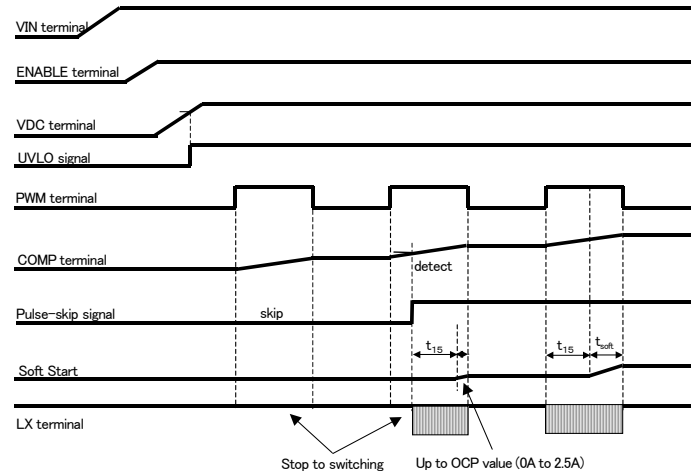

Figure 41. Soft Start
- Regulator (VDC) is operated after ENABLE=H. Inner circuit is operated after releasing UVLO. When boosting after releasing UVLO, soft start function is operated. Soft start circuit needs t_{15} (more than 5 μ s) such as Figure 41. Soft start is operated during Tsoft time. Set PWM width "H" until soft start finishes.